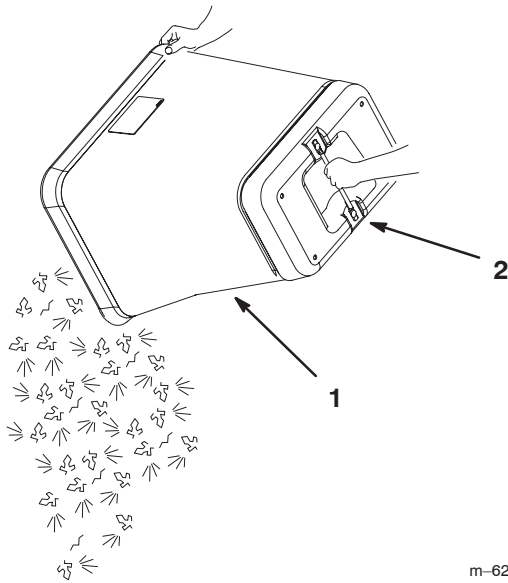

Figure 31
5. Grab the handle on the bottom of the bag and tip it over to empty the bag (Fig. 31).